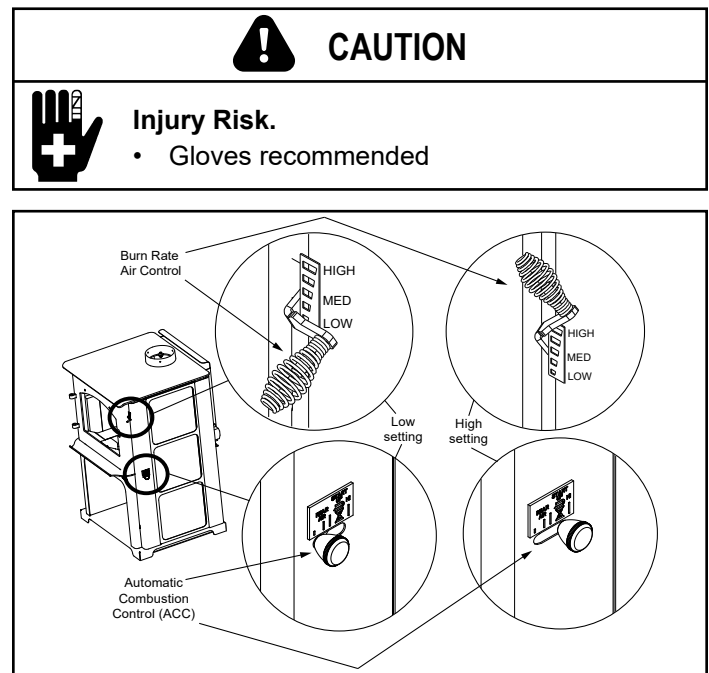

Figure 10.1
2. **Second Stage:** The next stage of burning, the secondary stage, is the period when the wood gives off flammable gases which burn above the fuel with bright flames. During this stage of burning it is very important that the flames be maintained and not allowed to go out. This will ensure the cleanest possible fire. If the flames tend to go out, it is set too low for your burning conditions. The air control located at the upper right hand corner is used to adjust for burn rates. This is called the Burn Rate Air Control (**Figure 10.1**).
1. **Burn Rate Air Control:** This air supply enters at the upper front of the firebox, near the top of the glass door. This preheated air supplies the necessary fresh oxygen to mix with the unburned gases, helping to create second, third and fourth combustions. This air is regulated by the Burn Rate Air Control. When the control is moved all the way up it is on the High setting and when moved all the way down it is on the Low setting (**Figure 10.1**).
1. **Start up and Reloading Fuel:** Open both Burn Rate Air Control and ACC systems fully. To do this with the Burn Rate Air Controls push spring handle up to high. For the ACC timer system push knob towards back of appliance until the knob is located under the high position (**Figure 10.1**).
2. **Maximize Heat with The ACC System:** To maximize heat output with the ACC timer System or also known as high burn push the ACC Air Control lever towards the back of the appliance and leave. This combined with having the main burn rate control lever pushed up will deliver the most amount of air needed to achieve the highest amount of heat output (**Figure 10.1**).